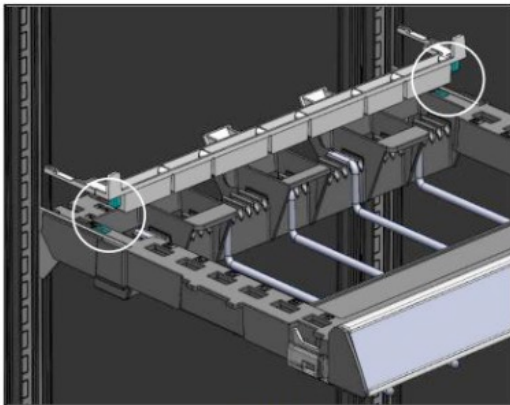

Figure 2
2. Introduce the Tray Locking Device. Align the two tabs with the openings on the tray as shown in the white circles (See Figure 2).